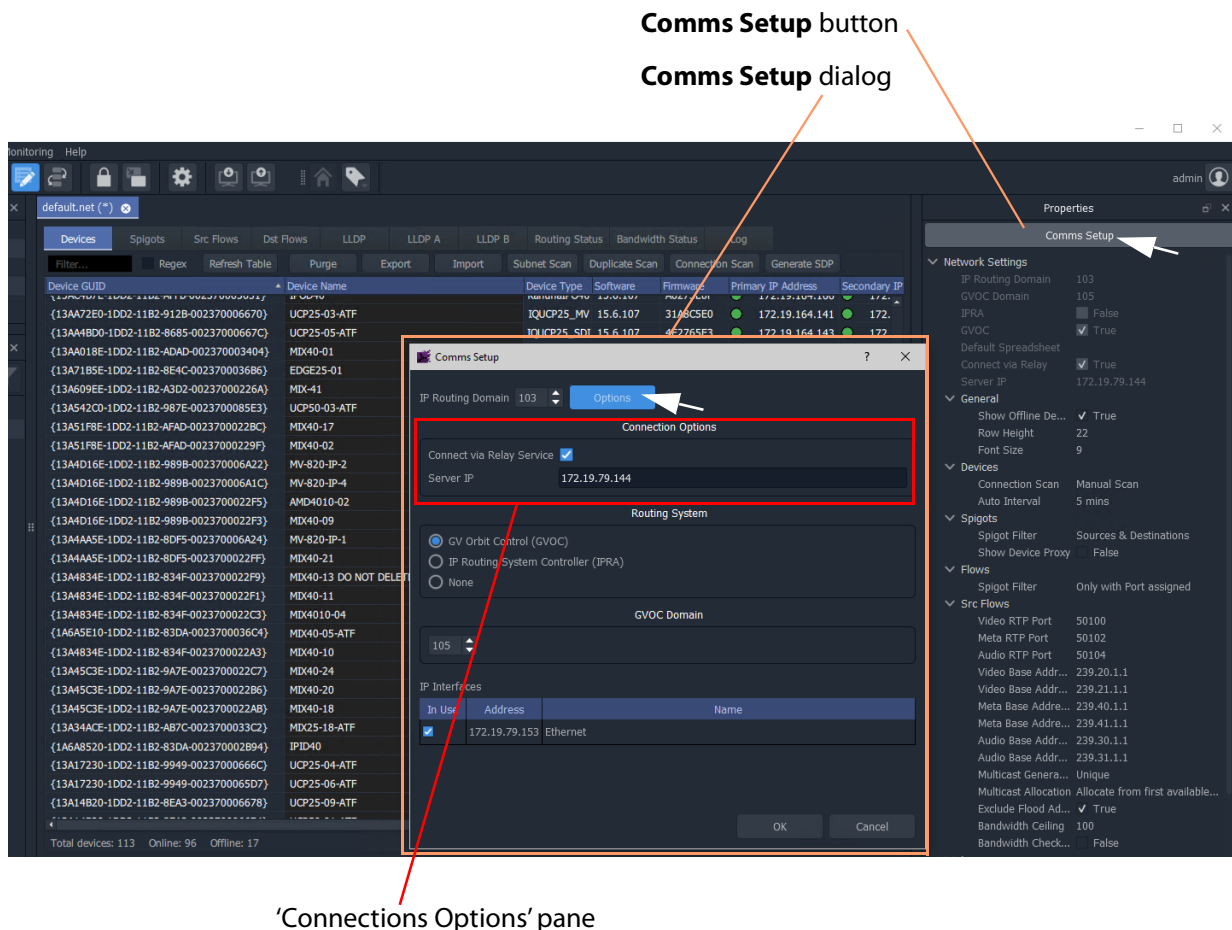

Figure 8: Comms Setup Button and Dialog in a GV Orbit Network Project
- 2 Click on the **Comms Setup** button to open the **Comms Setup** dialog. See Figure 8.